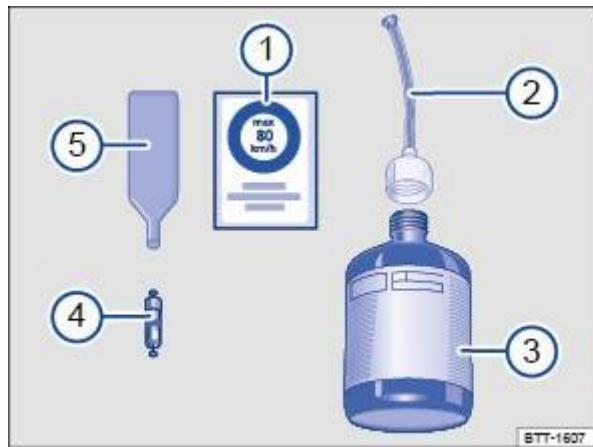

Fig. 208 Illustration: components in the breakdown set
The breakdown set consists of the following components ⇒ Fig. 208 :
- ② ① On/off switch
- ② ② Air bleed screw
- ② ③ Tyre pressure display
- ② ④ Tyre filler hose
- ② ⑤ 12-volt plug
- ② ⑥ Air compressor
There is a slot on the lower end of the valve core extractor ⇒ Fig. 208 ⑤ for the valve core. This is required for extracting the valve core from the tire valve and then screwing it back in. This also applies to the spare valve core ④.
② Unscrew the cap from the tyre valve.
② Use the valve core extractor ⇒ Fig. 208⑤ to unscrew the valve core from the tyre valve. Place the core on a clean surface.
② Shake the tyre filler bottle ⇒ Fig. 208③ vigorously to and fro several times.
② Screw the filler hose ⇒ Fig. 208② tightly onto the tyre filler bottle in a clockwise direction. The plastic foil on the closure is pierced automatically.
② Remove the plug from the filler hose ⇒ Fig. 208② and place the open end fully on the tyre valve.
② Hold the bottle upside down and fill the entire contents of the tyre filler bottle into the tyre.
② Remove the empty tyre filler bottle from the valve.
② Use the valve core extractor ⇒ Fig. 208⑤ to screw the valve core back into the tyre valve.